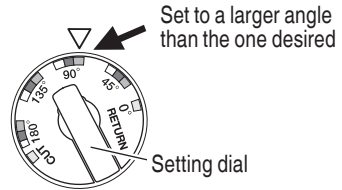

Fig. 52
- (1) Set the setting dial to a larger angle than the one desired (Fig. 52)